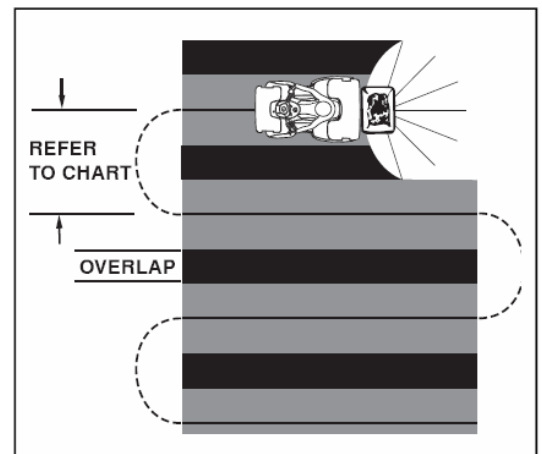

Figure 28
7. To insure uniform coverage, make each pass so that the broadcast pattern slightly overlaps the pattern from the previous pass (**Figure 28**). The approximate broadcast widths for different materials are shown in the application chart on this page.